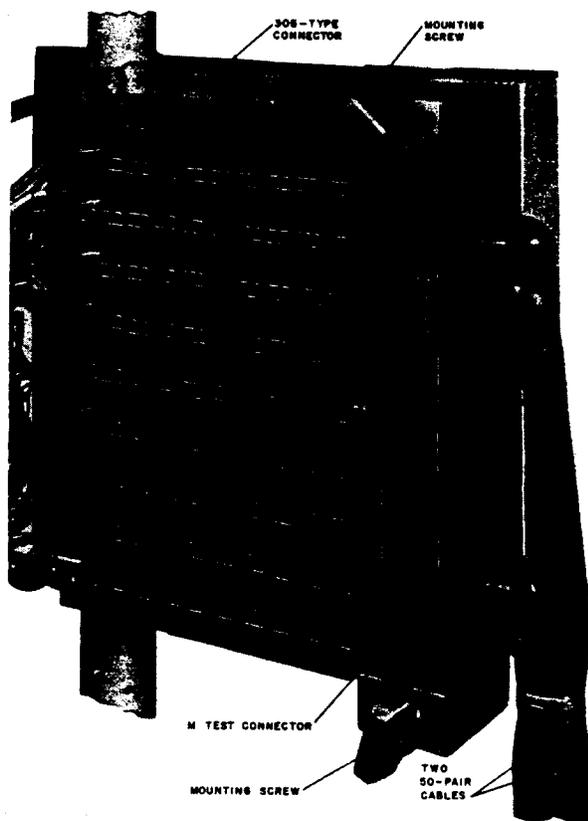

Figure 8—M Test Connector (AT-8823) Mounted on a 305-Type Connector
2.09 The M test connector (Figure 8) is used to connect the 100-pair test terminal field of the 305-type connector to automatic pair identification equipment. The test connector contains 200 (100 pairs) spring-loaded contacts that are internally connected to two 50-pair, 15-foot long cables. Each cable terminates on two 25-pair KS-19162, L4 (or equivalent) connectors for attachment to automatic pair identification equipment. The four connectors are numbered 1-25, 26-50, 51-75, and 76-100 to identify the respective cable pair count. The test connector is furnished with an F (AT-8854) carrying case.